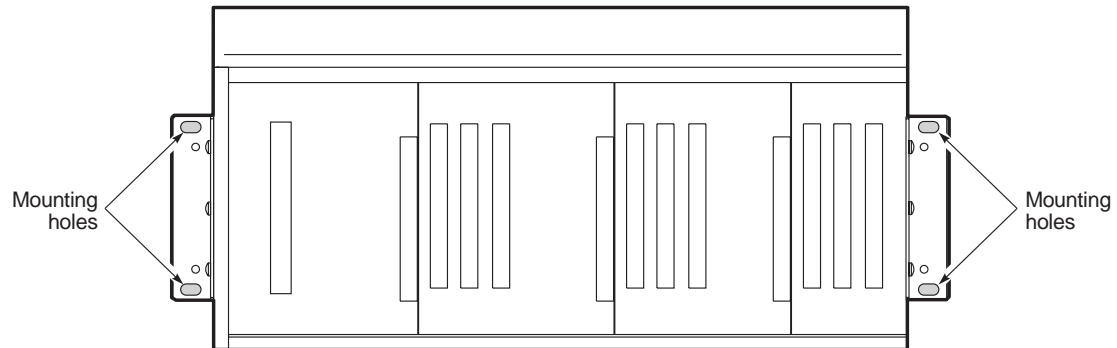

Figure 3. Mounting the FCS-717 List 2B COT Shelf
- 1 Align the shelf universal mounting brackets with the four vertical mounting holes (see Figure 3).